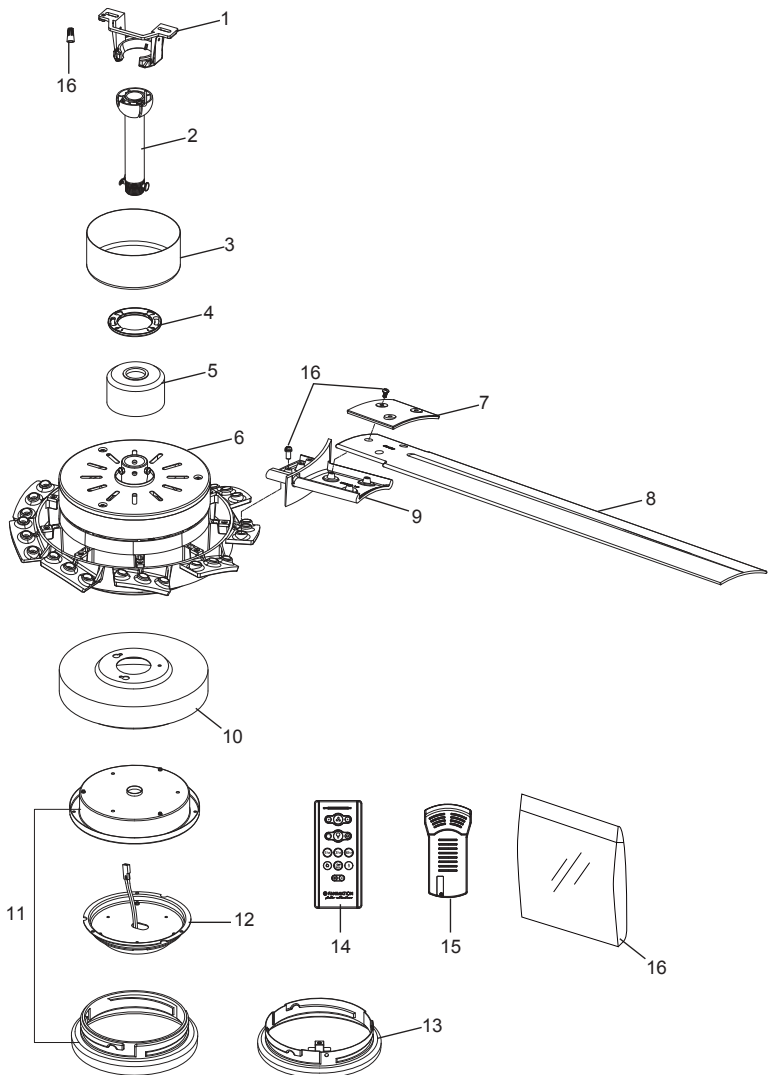

Figure 1
- ☐ 1. **IMPORTANT:** Using a full range dimmer switch (not included) to control fan speed will damage the fan. To reduce the risk of fire or electrical shock, do not use a full range dimmer switch to control the fan speed. (Figure 1)
- ☐ **1. Installing Wall Plate:** (Figure 1)